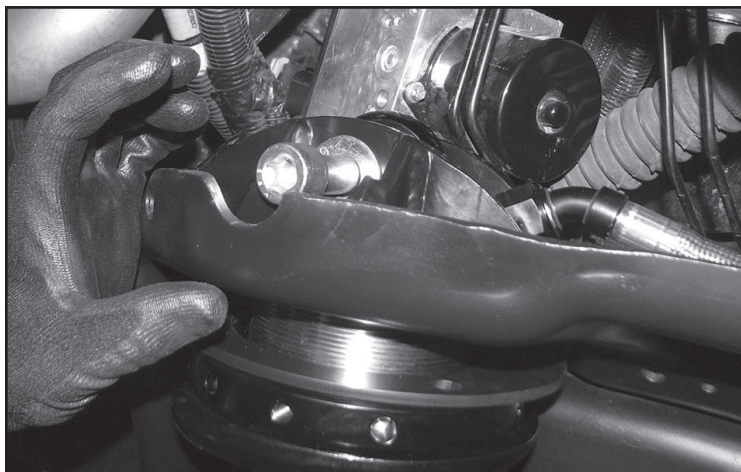

FIGURE 32 - STEP 19
19. Locate and install the misalignments into the top of the coilover. Install the FT44311BK (upper coilover mount driver) to the Fabtech coilover using the supplied 5/8" x 4" button head bolt and hardware. **NOTE: The resi hose needs to be oriented towards the rear of the vehicle. SEE FIGURE 32**